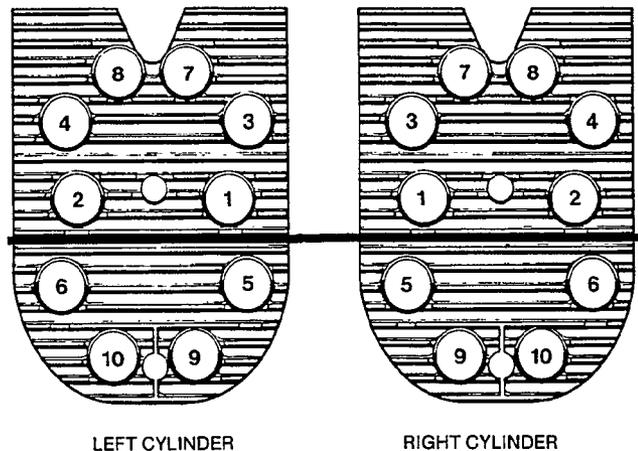

FIGURE 29. HEAD BOLT TIGHTENING SEQUENCE
6. Follow the head torque sequence shown in Figure 29 tightening all nuts to 5 ft-lbs (7 Nm), then 10 ft-lbs (14 Nm), then to the torque specified in the **ASSEMBLY TORQUES** section. Recheck all nuts for correct torque.